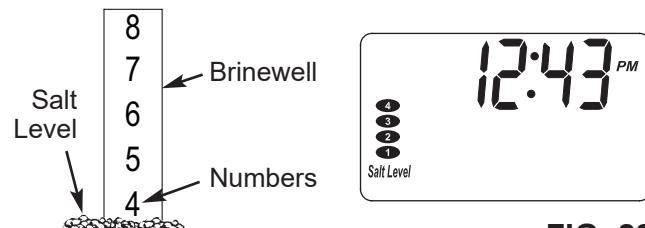

FIG. 22
3. Press the SET SALT LEVEL button until black ovals correspond to the salt level number (See Figure 22). At level 2 or below, the "Low Salt Level" light will flash.